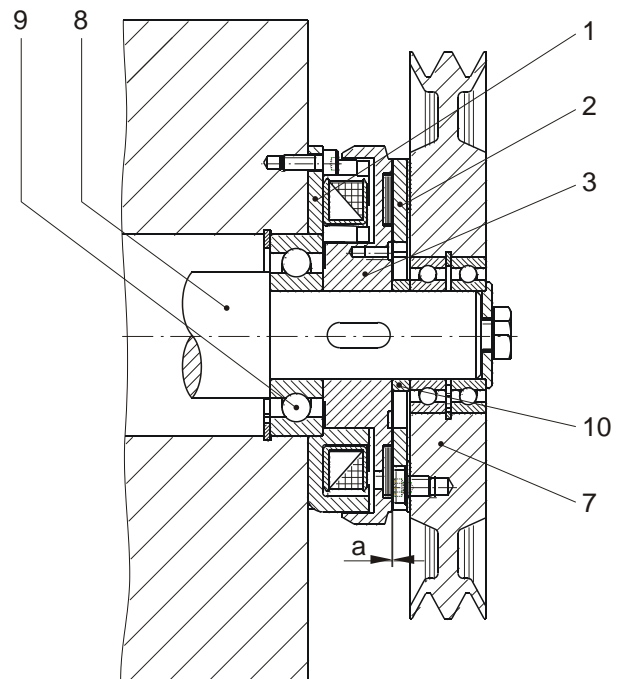

Fig. 3
Installation Example 1 (Fig. 3)
- Centred by a ball bearing (9), Figs. 3/4.
- The rotor (3) must be kept grease-free.
The rotor (3) must be secured axially in operation, see Installation Examples Figs. 3 and 4.
- 4.1. Adjust the air gap "a" according to Table 1 and Figs. 3/4.
- 4.2. Secure the mounting part or flange hub (6) axially backlash-free.
Axial backlash changes the air gap "a" and can lead to the rotor (3) rubbing against the armature disk (2) (see Installation Examples Figs. 3 and 4).